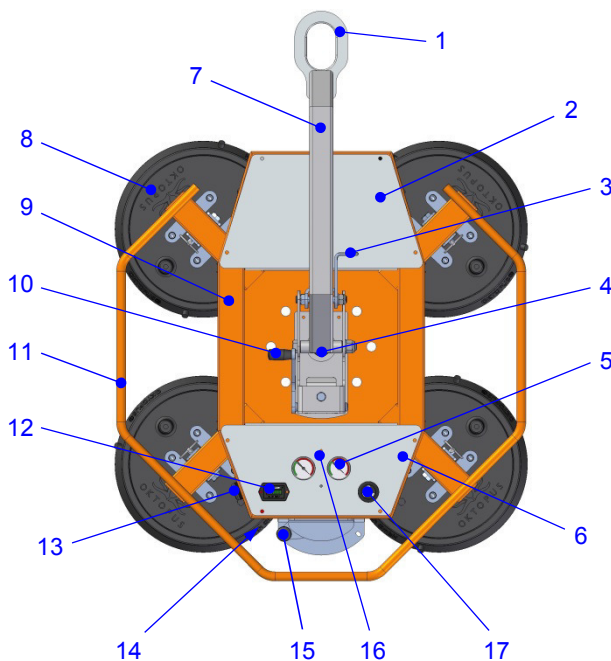

Fig. 1: OKTOPUS® GLASS-Jack GL-N 400/300
The functional main assemblies are (see fig. 1):
The charge indicator is arranged on the device according to figure 1.
If your OKTOPUS® is equipped with the optional blow-off function, subsequently press the button “Blow-off” (see fig. 1, pos. 15). Keep the button pressed until all suction pads have completely disengaged from the load. In this case the suction pads are supplied with compressed air which ensures that the suction pads are released quicker from the load.